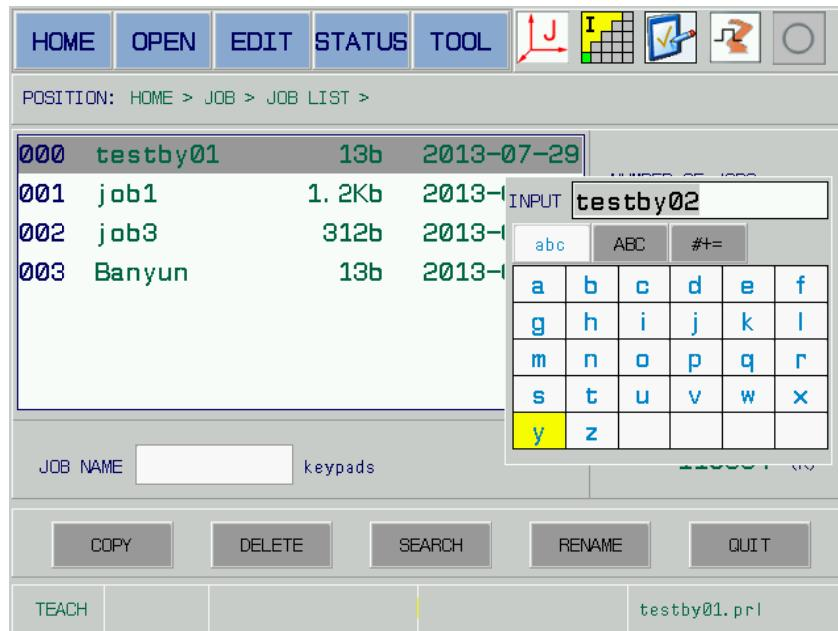

Fig. 5-8
3. Select the program to be copied by direction buttons in the {Job list} page, for example: copy “testby01.prl” to “testby02.prl”. Shift the cursor to the input frame by [TAB], then enter the soft keyboard input page by [SELECT], and then complete the file name input “testby02.prl” based upon the steps of the file name input in the “Section 5.1.1 New Program”; refer to the Fig. 5-8.